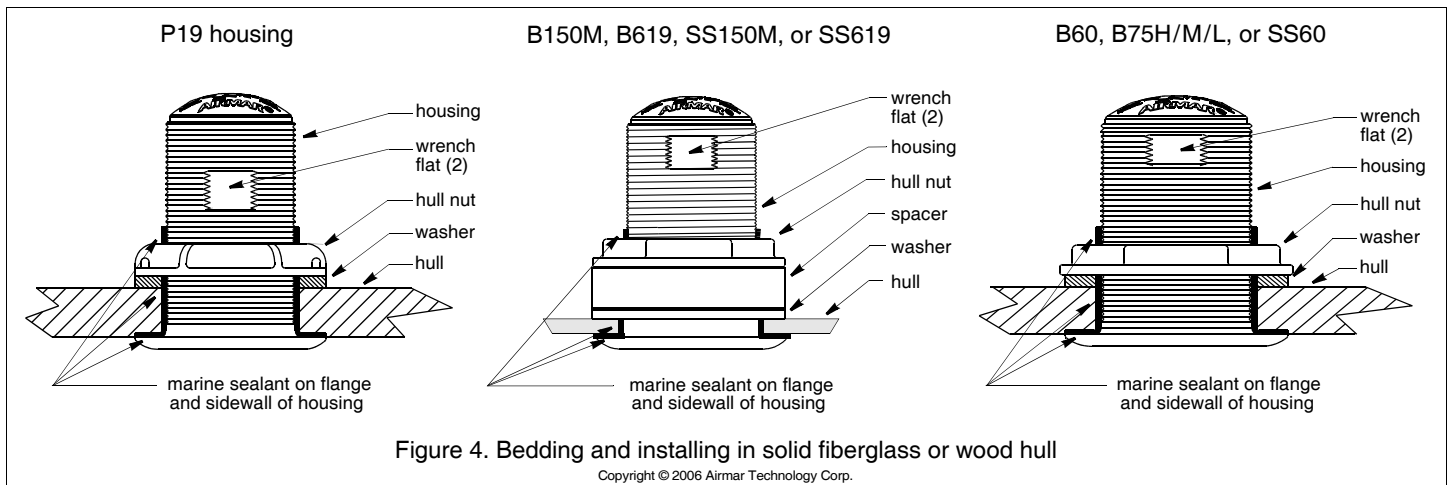

Figure 4. Bedding and installing in solid fiberglass or wood hull
Apply a 2mm (1/16") thick layer of marine sealant around the flange of the housing that contacts the hull and up the sidewall of the housing (see Figure 4 or 5). The sealant must extend 6mm (1/4") higher than the combined thickness of the hull, washer(s), hull nut, and any spacer. This will ensure there is marine sealant in the threads to seal the hull and to hold the hull nut securely in place.
- Slide the washer onto the housing (see Figure 4 or 5).